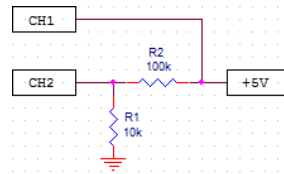

Figure 59: Resistor divider
- 1) Build the circuit shown on figure 59.